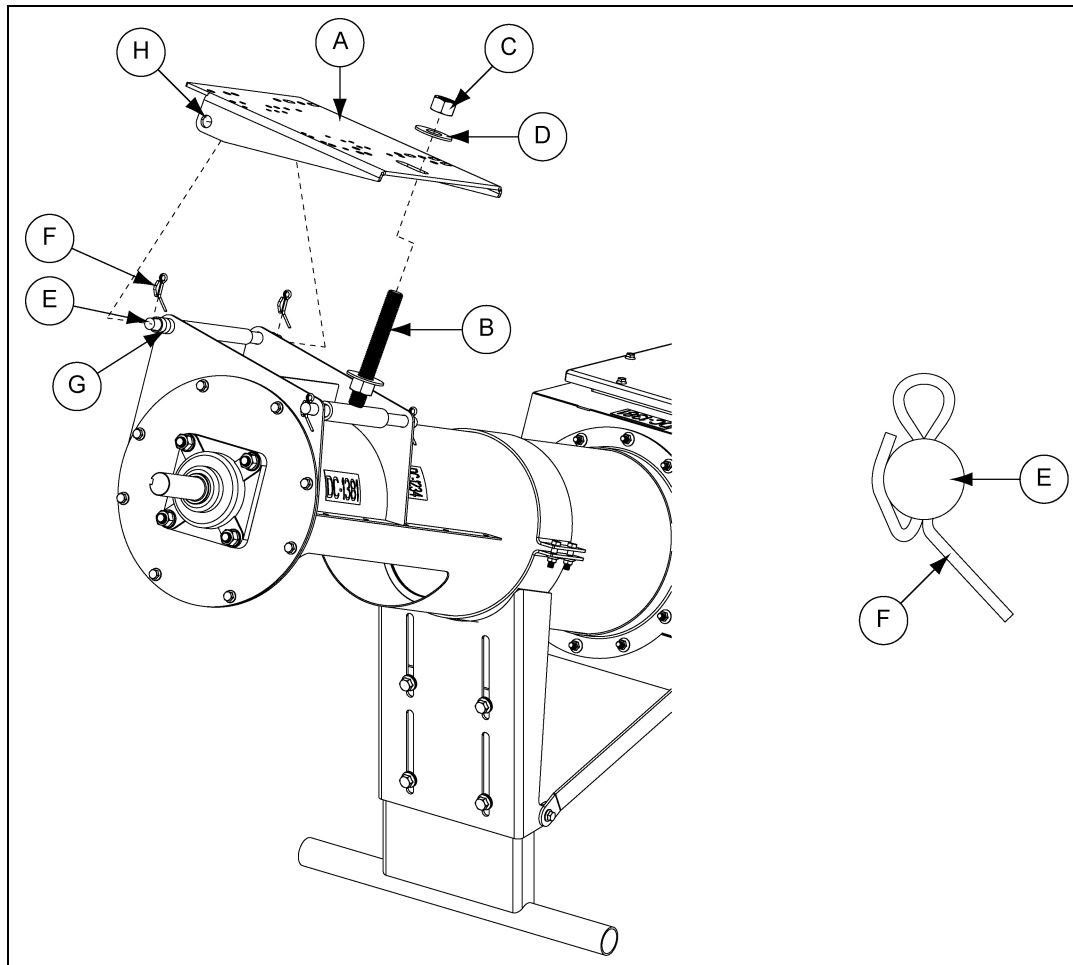

Figure 4E
1. Secure one of the motor mount adjustment nuts (C) and one of the motor mount adjustment washers (D) approximately 3/4" of the way down the motor mount adjuster's threaded shaft.
2. Once the nut (C) and washer (D) are secure, slip the motor mount plate (A) over the adjuster (B) and align the pivot holes (H) with the pivot tube. (See Figure 4E.)